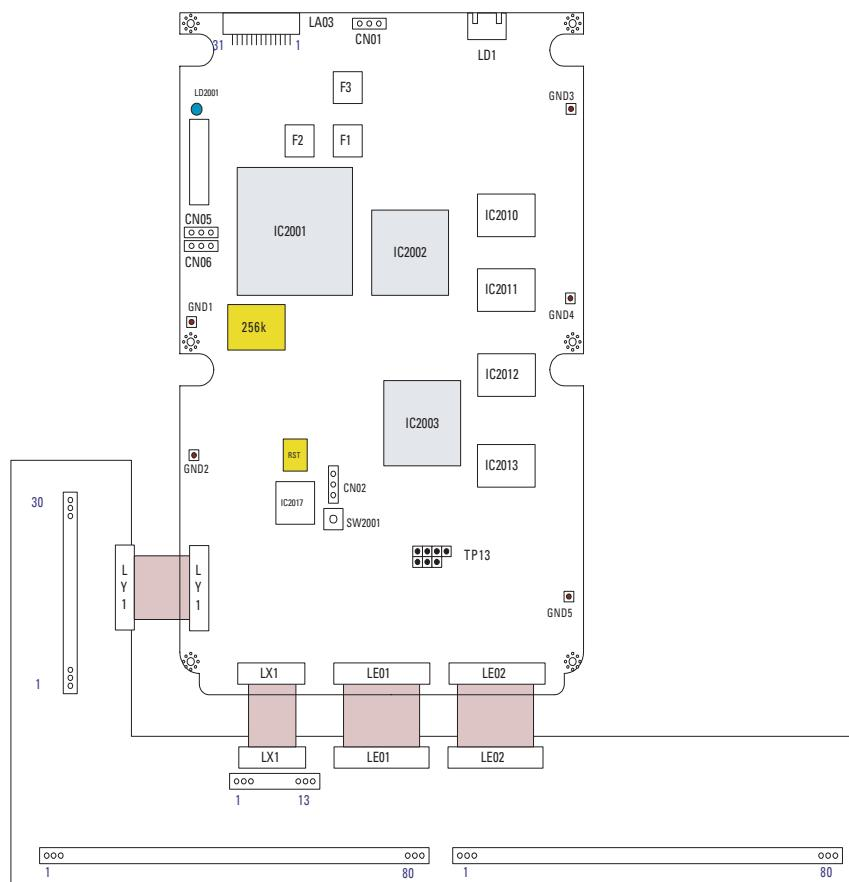

Figure 6. Connecting between the logic main board and the JIG board for examination
③ As shown in Figure 6, connect the logic main board and the JIG board for examination using the cables connecting LX1(13P), LY1(30P), LE01, and LE02(80P).
④ Set the oscilloscope to 5ms/div, 2V/div.
- ① Set the logic main board as Figure 6 shows.
- ② Connect a 4-pin connector cable between LD01 of the logic main board and the linear power supply (or SMPS).
- ③ Turn the linear power supply on and supply 5V power to the logic main board.